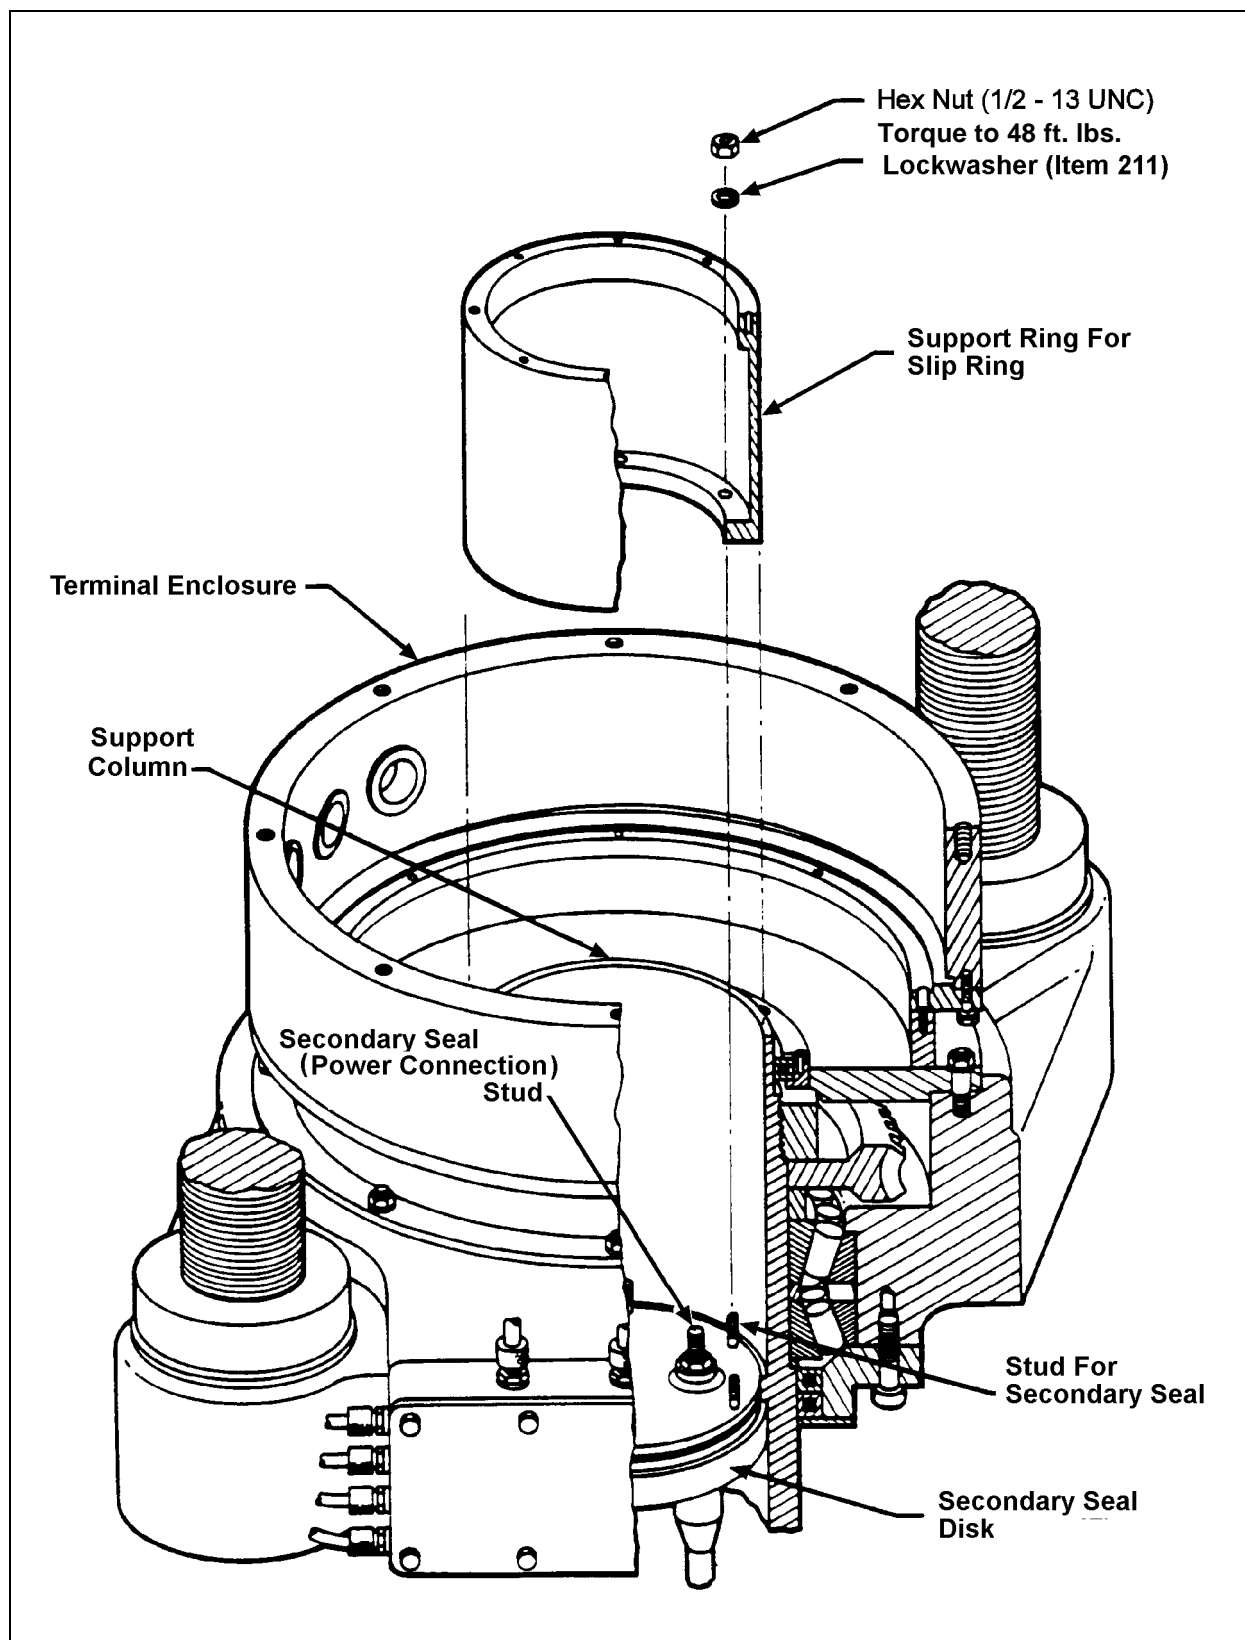

Figure 4-9. Access to Secondary Seal Disk.
**4-2.5.1 (TOP)** Ship's Force should have already disassembled the top of the training and retracting device to gain access to the secondary seal disk as shown in Figure 4-9.
**4-2.5.2 (TOP)** Remove the support ring for the slip ring (Figure 4-9) from the secondary seal disk.
**4-2.5.43.** (TOP) Install the support ring for the slip ring (Figure 4-9).
**4-2.5.44.** (TOP) Install the six 1/2-13 UNC hex nuts and lock washers on the studs for the secondary seal using a 3/4-inch socket and 12-inch extension. Torque nuts to 48 ft.-lbs. (Figure 4-9).
**4-2.5.47.** (DV) Remove the top hat cover from the support column.
**4-2.5.48.** (DV) Remove and replace O-ring (2-448, item 14 of NAVSEA 6699482) from the support column flange.